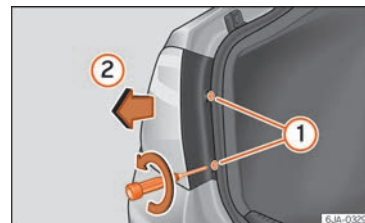

Fig. 98 Remove the rear light unit from side panel.
- Take the screwdriver or a Torx 20 key (T20) from the vehicle tool kit and loosen (turning anti-clockwise) and remove the two retaining screws that secure the front of the light »» Fig. 98 ①, taking care not to lose them.
- Pull the rear light unit backward (»» Fig. 98 ②) to remove the light from its housing.